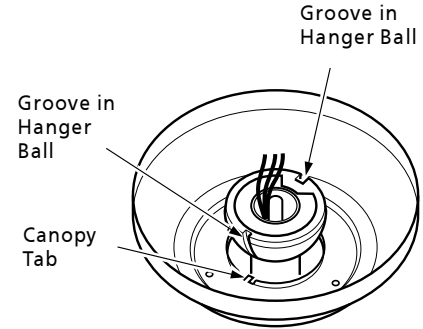

Figure 5b - Canopy Tabs and Grooves in Hanger Ball
3. Lift the fan housing towards the ceiling and rotate the fan until each canopy tab engages a groove in the hanger ball as shown in Figure 5b.